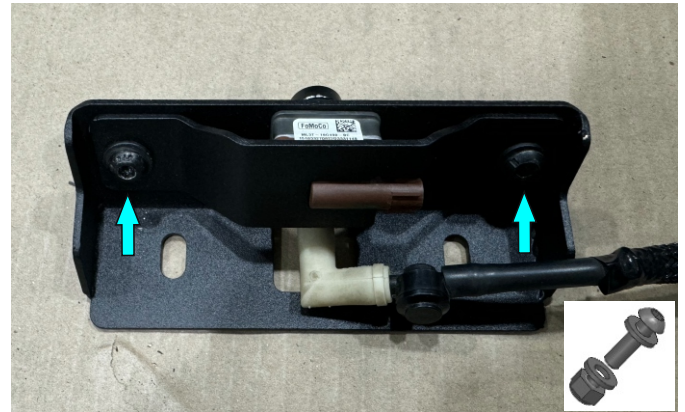

Fig.60
58. If your vehicle is fitted with front camera, install it to camera bracket (item 23) and secure it using camera clamp, screws M6x16, washers M6, nuts M6 (items 22, A1, H1, E2) (fig.60). **\*Tighten hardware after that.**